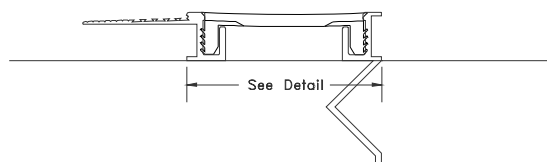

Figure 6
**STEP 6.** Insert one of the elastomeric seal's tabs into the channel in the base member. Ensure that the seal's tab is inserted completely into the channel. Insert the elastomeric seal's other tab into the corner wall base member's channel (see Figure 6). Ensure that the seal's tab is inserted completely into the channel.